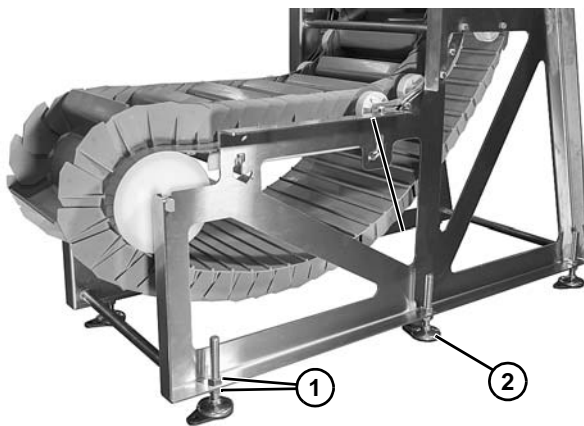

**Figure 30**
1. Install the hopper (**Figure 30, item 1**) to the conveyor with four screws (**Figure 30, item 2**).